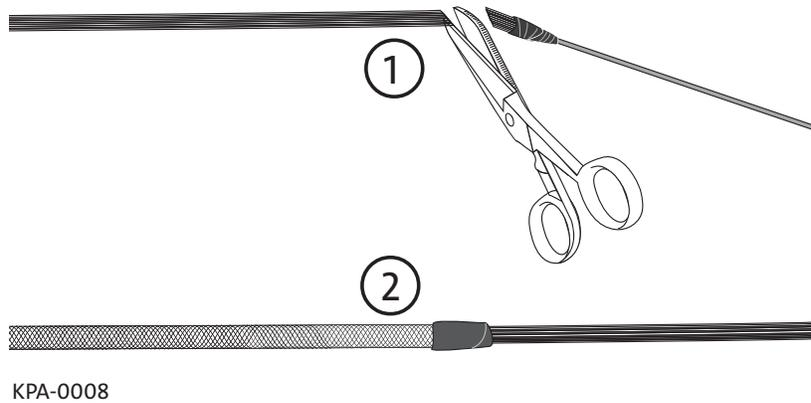

Figure 22
Step 2: Remove plastic rod (Figure 22) and reuse, if necessary.